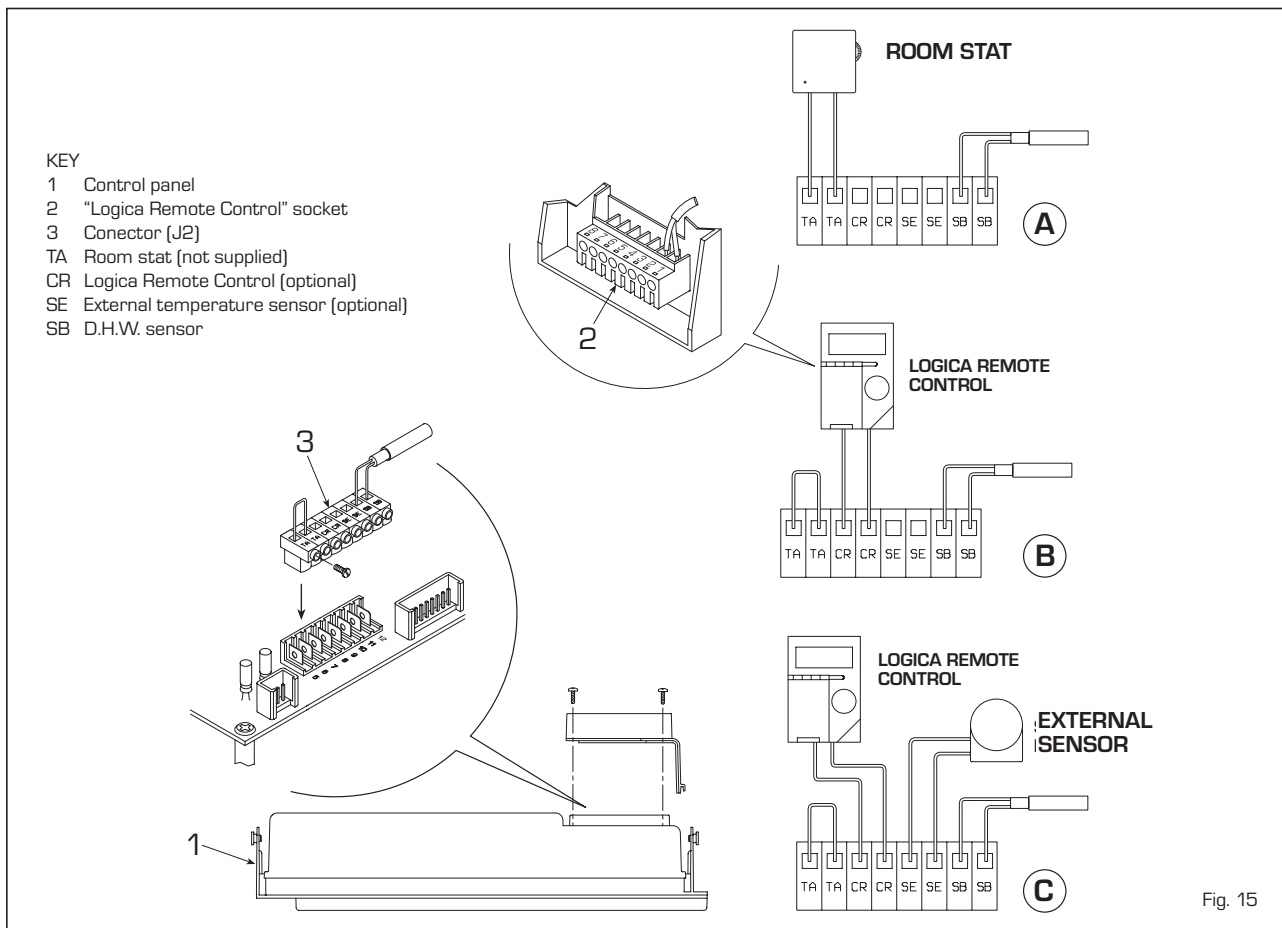

Fig. 15
2.10.1 Room stat connection (fig. 15 pos. A)
2.10.2 "Logica Remote Control" connection (fig. 15 pos. B)
2.10.3 External temperature sensor connection (fig. 15 pos. C)